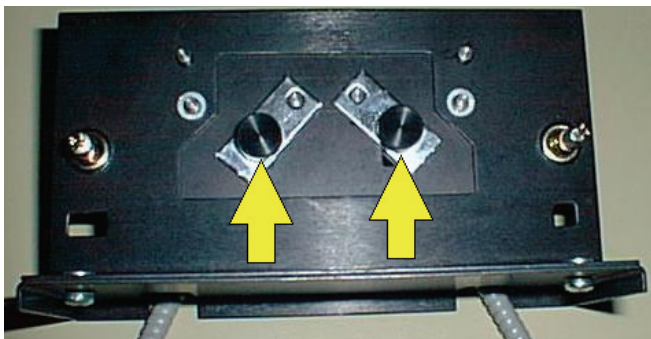

Figure 77 Accessory screws
3. Loosen the two knurled screws underneath the accessory, as shown in Figure 77.